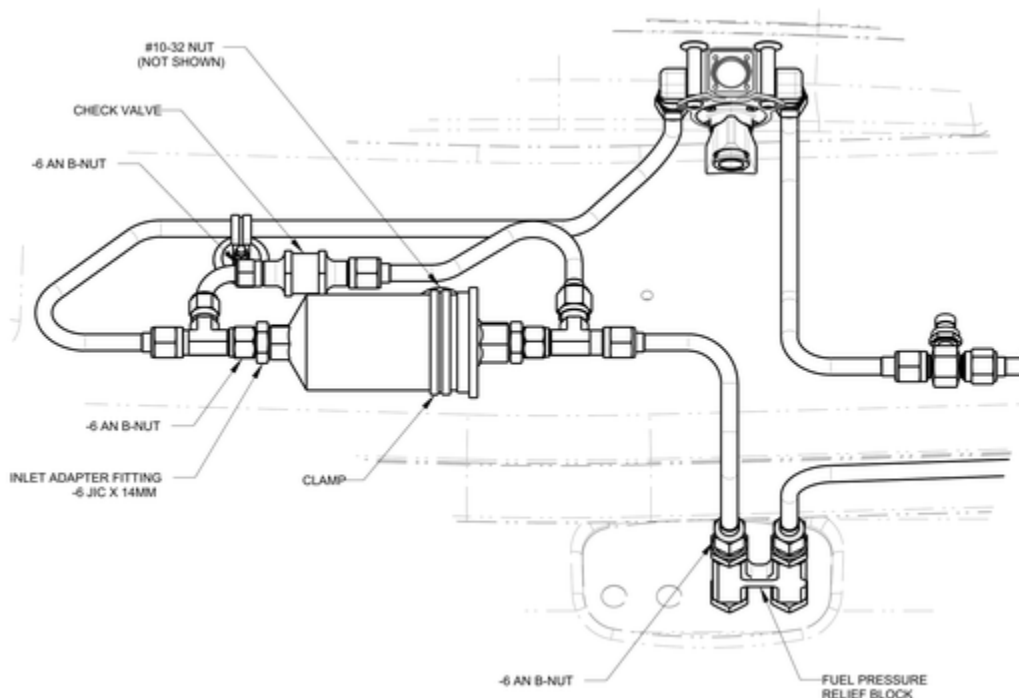

FIGURE 11-22
4. Use a 13/16 wrench to hold the union fitting at the fuel pressure relief block while loosening the adjacent -6 AN B-nut with an 11/16 wrench shown in Figure 11-22. Catch the fuel as it leaks from the joint.
5. Use a 15/16 wrench to hold the check valve while loosening the adjacent -6 AN B-nut with an 11/16 wrench in Figure 11-22.
4. Locate the fuel filter assembly in place on the aircraft and loosely thread on the -6 AN B-nuts. See Figure 11-22.